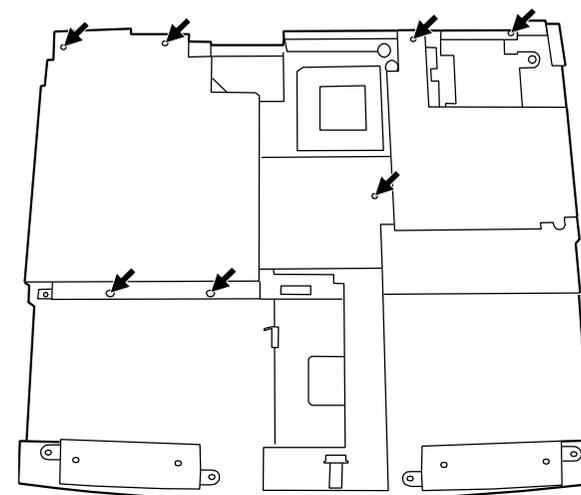

Figure 5-28. Removing the Battery/Touchpad Board
7. Remove seven screws fastening the metal shield. (Refer to Figure 5-28.)
- 2. Replace the metal shield. Secure the shield with seven screws. (Refer to Figure 5-28 earlier.)**